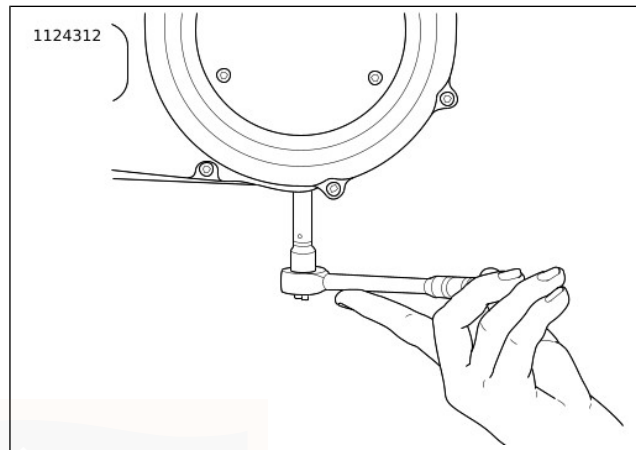

Figure 52. Removal/Installation of Chaincase Drain Plug
3. See Figure 52. Drain primary chaincase.